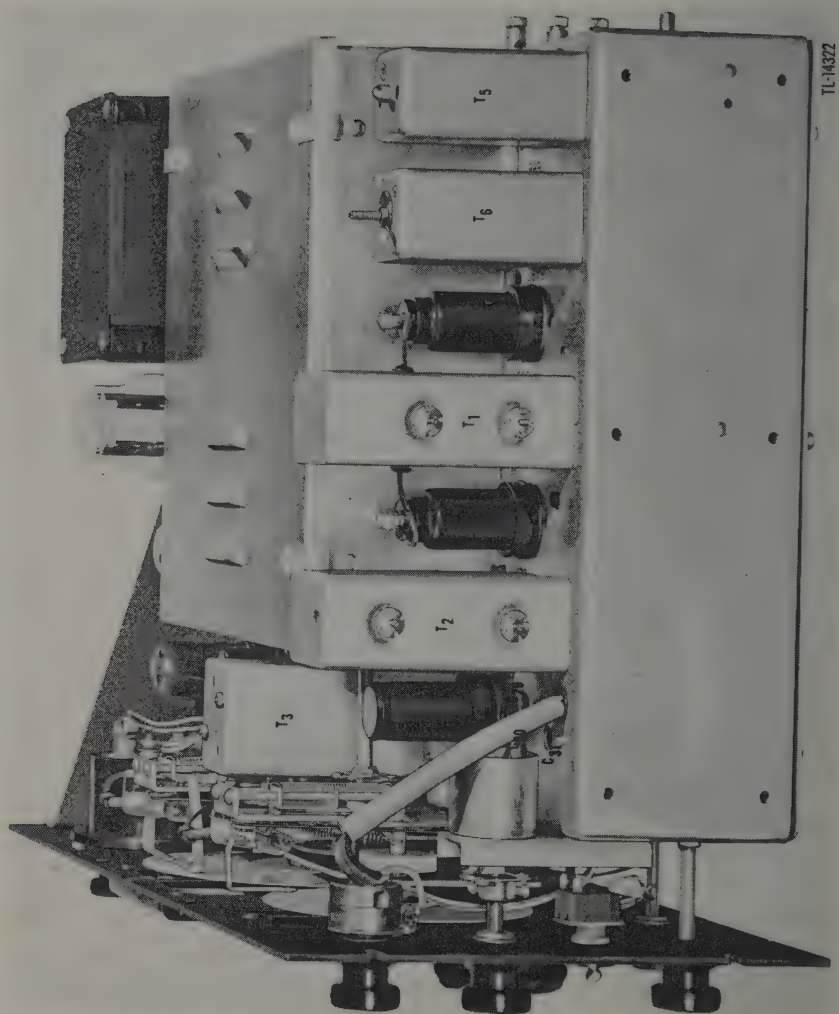

Figure 22. I-f aligning adjustments.
- (5) BANDSWITCH for i-f alignment .55- to 1.6-megacycle band.
- (6) BANDSWITCH for r-f alignment set at band being aligned.
- (7) SELECTIVITY control at SHARP I.F.
- (8) SEND-RECEIVE switch at RECEIVE.
- (9) CRYSTAL PHASING control at No. 1½ on left side.
- (10) A.N.L. control at OFF (zero).
- (11) A.V.C. control at A.V.C.-OFF.
- (12) BANDSPREAD control at 100 on the logging scale.
- (13) ANTENNA TRIMMER must be adjusted for maximum gain at each r-f alignment point.
- (14) R.F. GAIN control at maximum (No. 9).
c. I-f Alignment 455 Kc (fig. 22).
- (1) Set main dial at 1,400 kc on .55- to 1.6-mc band.
- (2) Connect the hot lead from the signal generator to the mixer Tube JAN-6SA7 (V3) terminal No. 8. Connect the ground of the signal generator to the chassis. Adjust the signal generator to produce a 455-kc modulated signal.
(3) For maximum reading of the output meter, roughly adjust the aligning screws of transformer T1 (fig. 22). The lower screw is accessible through the hole in right mounting bracket.
(4) Adjust the alignment screw on transformer T2 for maximum output meter reading.
(5) Adjust capacitor C31 (figs. 8 and 22) and the air trimmer capacitors at the top of transformer T3 (fig. 22) for maximum output.
(6) Switch to CRYSTAL BROAD position.
(7) Turn on the B.F.O. and adjust to a tone of about 1000 cycles.
(8) Vary the frequency of the signal generator about the 455-kc setting while adjusting the top screw on transformer T2 (fig. 22) until the output goes through a maximum, dips down, and rises to another maximum.
(9) Adjust the phasing control for maximum selectivity and back off the top screw on transformer T2 until the output reaches a minimum value between the two maximum values first noted.